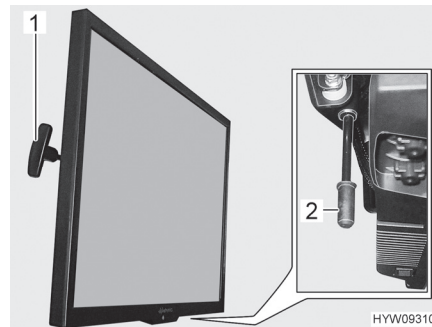

Fig. 88 Flat screen
- Pull and hold handle (Fig. 88,1). The flat screen is unlocked.
- Pull down the handle (Fig. 88,2) and hold it there. The flat screen is unlocked.